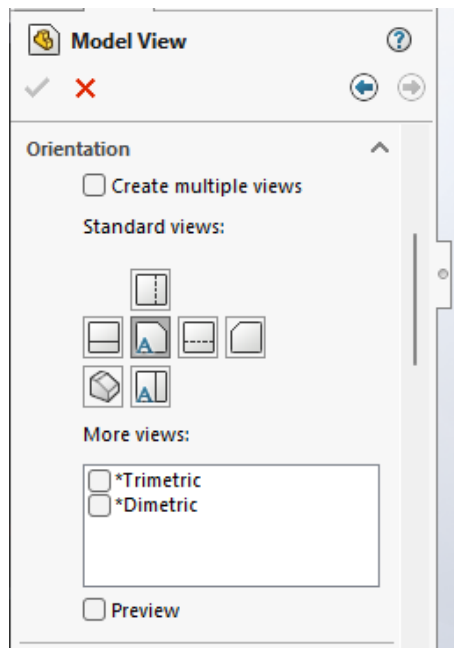

Fig. 4.4.
- In the «Orientation» section, you will find a panel for selecting the orientation of the detail in the projected view you are about to create. This panel is essential for ensuring that the projected views accurately represent the three-dimensional object in the desired manner. When you select the option to "Create multiple views," you open up the possibility of choosing from six standard orthogonal projection views: front, back, left, right, top, and bottom. These views provide a comprehensive representation of the object from various angles, offering a thorough understanding of its shape and features (fig. 4.4).